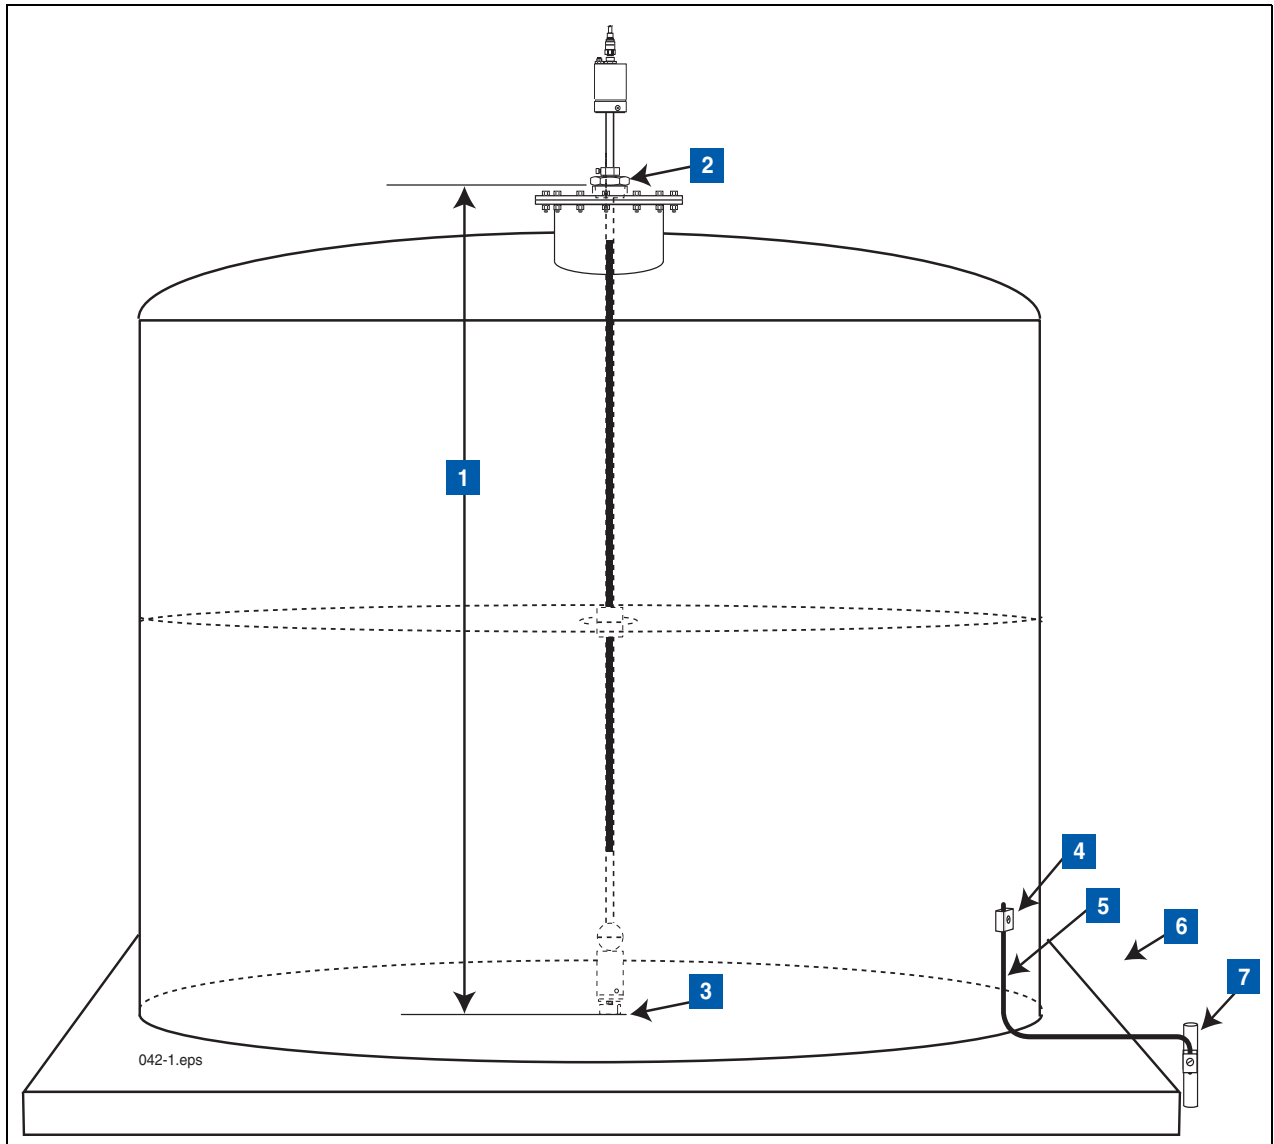

Figure 3. Mag-FLEX Probe Parameters
7. AST grounding cables and earth electrodes according to NFPA70, NFPA30A and local codes (ref. example in Figure 3).
| <ul style="list-style-type: none"> 1. Mag-FLEX probe 2. 4mm² diameter (10 gauge) ground wire from junction box to tank ground. 3. Junction box 4. Seal off 5. Conduit 6. 4mm² diameter (10 gauge) ground wire from probe canister to tank ground. 7. AST grounding cables and earth electrodes according to NFPA70, NFPA30A and local codes (ref. example in Figure 3) 8. Intrinsically safe wiring 9. TLS console (Vm=250V) | <ul style="list-style-type: none"> 10. 120 or 230 Vac from power panel - separate branch circuits are required for the TLS RF and TLS console. 11. Non-hazardous area 12. Hazardous area (Class I, Div. 1, Group D) 13. Concrete tank pad. |
Before ordering the Mag-FLEX Probe, an accurate dimension for "1" must be obtained. Measure internally the Insertion Length of '1' from the 1½" entry point to the bottom of the tank (see Figure 3). Probe length for ordering purposes = Length of '1' + 250 mm
LEGEND FOR NUMBERED BOXES IN Figure 3